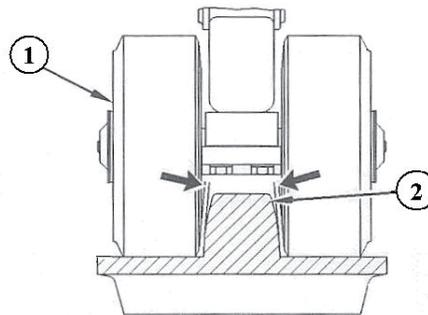

FIGURE 1
One simple way to check alignment is to pull the implement with the Flexhaul track system installed as straight as possible on a flat surface for at least 300 feet. After stopping, observe if there is clearance with the front midrollers (1) on both sides of the guide lugs (2) [see Figure 1]. If no clearance is evident on one side, the track may be out of alignment.